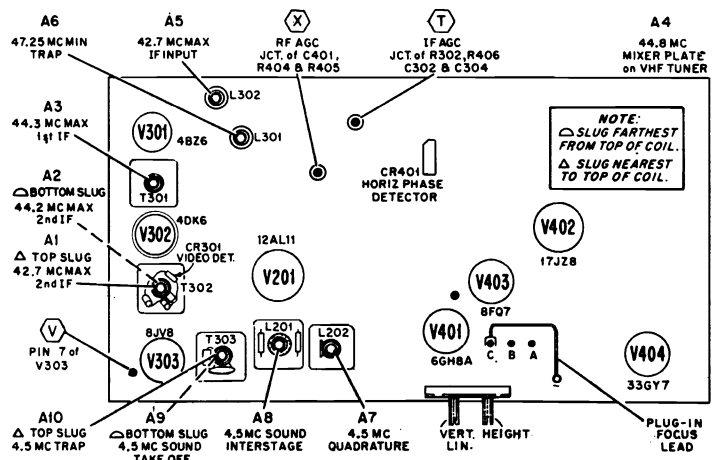

Fig. 6 TOP DRAWING OF CHASSIS SHOWING TUBE AND ALIGNMENT LOCATIONS
Connect isolation transformer between AC line and receiver. Connect negative of 4 volt bias supply to test point "T" (IF AGC), positive to chassis. See Figure 6.
1. Set VHF tuner on channel 12. Connect negative of 6 volts bias supply to test point "T" (IF AGC), positive to chassis. See figure 6.
Set AGC control fully to the left. Channel Selector on channel 12. Connect negative of 3V bias supply to test points "T" (IF AGC) and "X" (RF AGC), positive to chassis. See figure 6.
1. Tune in normal picture on strongest TV station. Allow about 15 minutes for set to warm up. See figure 6 for adjustment locations.
Height control on the etched circuit board. See figure 6. These points are shown as "A", "B" and "C" on schematic. To make adjustment, connect plug-in focus lead to either of the three focus pins, whichever provides best focus at central area of picture tube. Important: Focus adjustment should be made with controls set for picture with normal contrast and brightness.